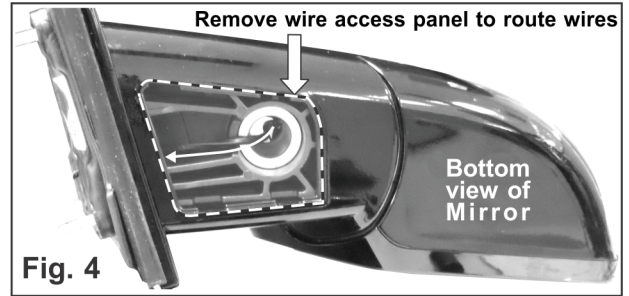

Fig. 4
1. Remove the wire access panel from the bottom of the mirror assembly to access the wire harness pathway (Fig. 4)
2. Mount the lighthead to the Mirror-Beam™ housing and plug the lighthead into the connector coming from the front of the mirror assembly. This connection will be tucked between the Mirror-Beam™ housing and the mirror assembly (Fig. 4).